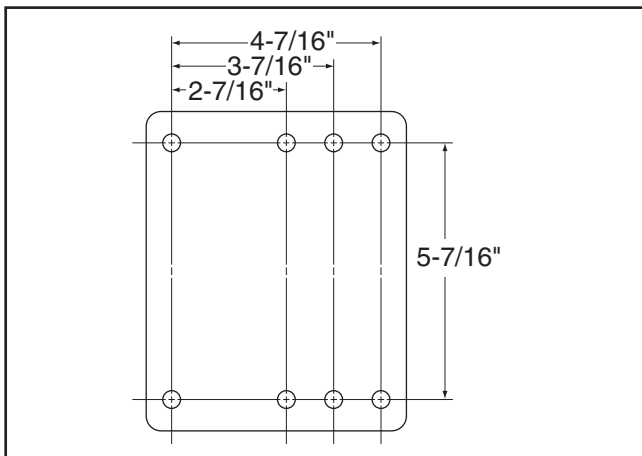

Figure 2. Mounting plate bolt pattern.
Bolt Pattern.....	See Figure 2
- Provides a clamping location for all four bolts and both clamping brackets (see **Figures 2–3**).